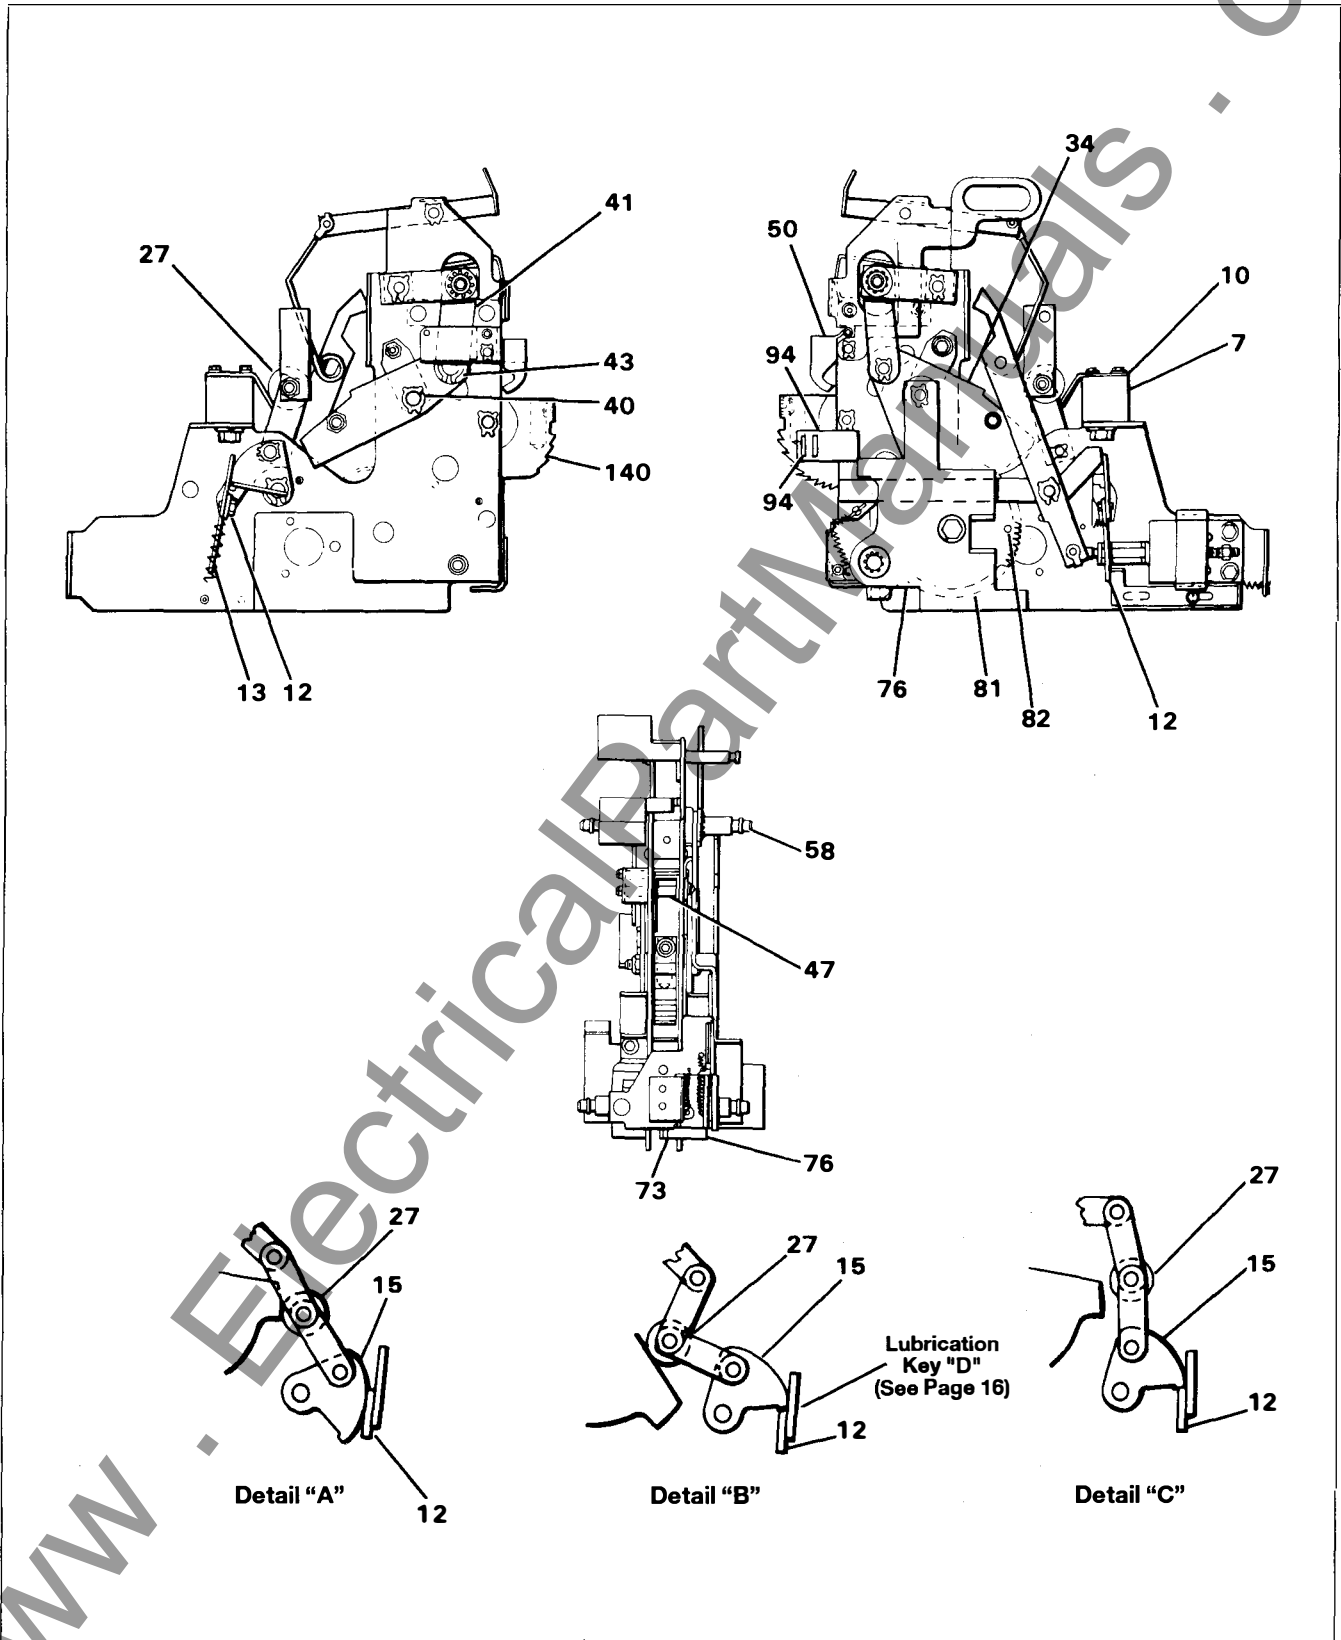

Figure 2. Circuit Breaker Operator
The breaker has a center-mounted frame so many of the latches and links are arranged in pairs. For descriptive purposes, they will be referred to as single items. Refer to **Figure 2** and **Table 1**. Detail (A) shows the position of the trip latch and toggle linkage when the circuit breaker is open and the closing springs are discharged.
The mechanism of the electrically operated circuit breaker is the same as the manually charged circuit breaker, except that the manual charging handle is replaced by a motor and gear system. Refer to **Figure 2**, and **Table 2**. Power available to the control circuit will start the automatic charging cycle. The motor gear box pinion rotates gear (81) counterclockwise. Cam follower (82) engages an arm of wind and close cam (34), which rotates the cams in the same manner as for the manually charged circuit breaker. When the wind and close cam (34) reaches its charged position, the back of the cam engages switch lever (73), rotating the lever away from the switch operator. Gear switch lever (76) will still be holding the switch in the operate position and the motor will continue to run until the roll pins on the side of gear (81) lifts lever (76)